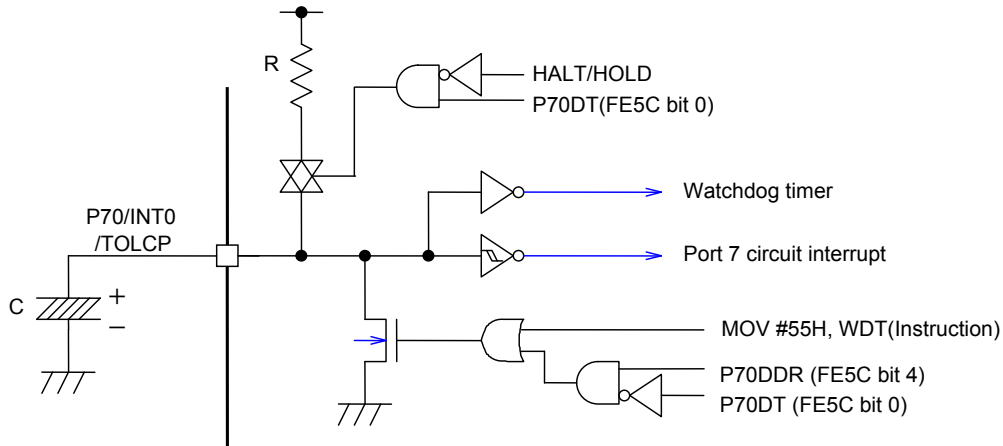

Fig. 4.6.3 Sample Application Circuit with a Pull-up Resistor
- 3) The external resistor to be connected to the watchdog timer can be omitted by setting bits 4 and 0 of the control register P7 (FE5C) to 1, 0 and connecting a pull-up resistor to the P70/INT0/T0LCP pin (see Figure 4.6.3).